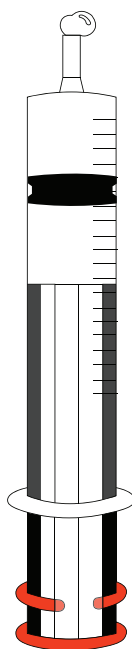

Figure 7 Fill the vacuum syringe
5. Turn the vacuum syringe to point the tip up and remove residual air (Figure 7).